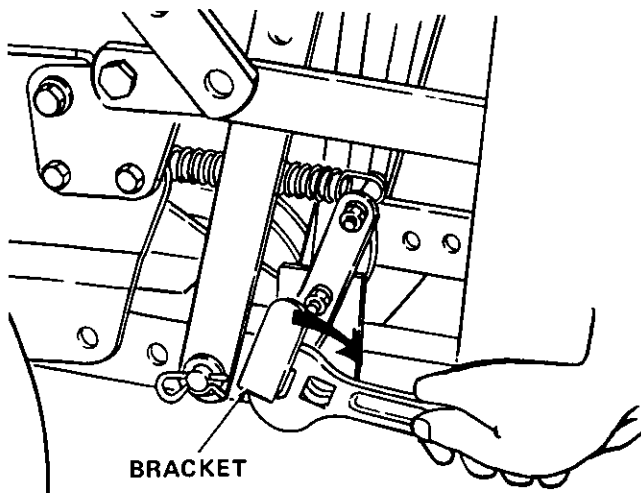

Figure 27
- c. Tighten belt tension by using an adjustable wrench to push bracket over center. Refer to Figure 27.